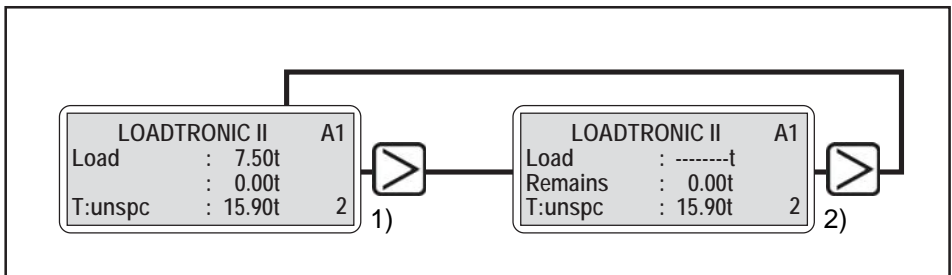

Figure 4.3: Selecting pause mode
1. Pressing  (if you are in automatic weighing mode). When the LOADTRONIC II is in the pause mode no buckets will be weighed or recorded. The display will show a row of " - " signs, ref. Fig. 4.3.